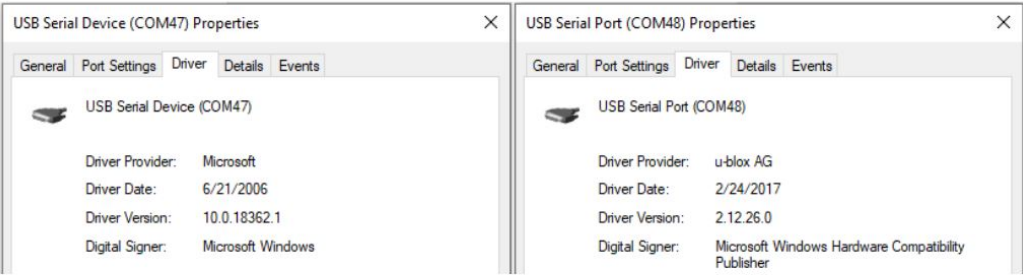

Figure 5: FTDI USB bridge and USB ports properties
- The power LED will turn on in blue color. · Start the Device Manager utility from Windows. Two new ports will be visible under the Ports tab: the USB Serial Device is the Native USB port and the USB Serial Port is the FTDI USB bridge port, as shown in Figure 5.